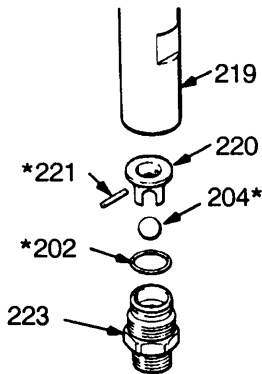

Fig 16
2. Unscrew the intake valve (223) from the cylinder (219). Remove the o-ring (202), ball guide (220), stop pin (221) and ball (204) from the valve. See Fig 16.